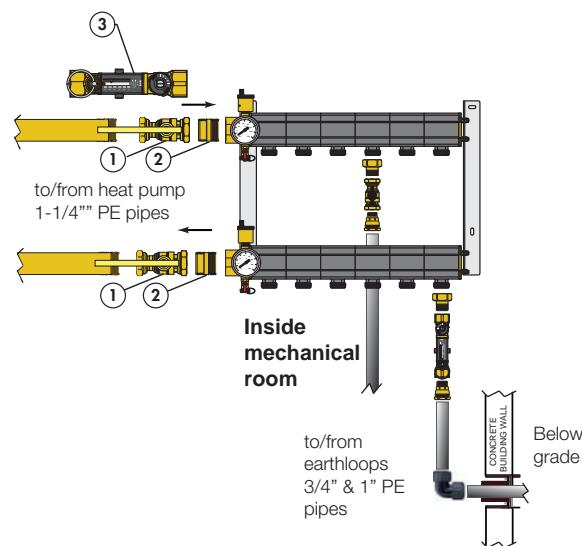

Figure 49
See Figure 49. To isolate the manifold and connect directly to the heat pump with metal pipe, use ball valve (1) with double nipple (2) on both heat pump circuit supply and return ports. The QuickSetter balancing valve with flowmeter (3) can replace the ball valve on the supply line combining isolation valve and flow setting. In addition, the QuickSetter (3) provides a way to measure the total ground heat exchanger flowrate which, along with supply and return temperatures read from the manifold temperature gages, can be used to calculate the heat supplied by the earthloop system.